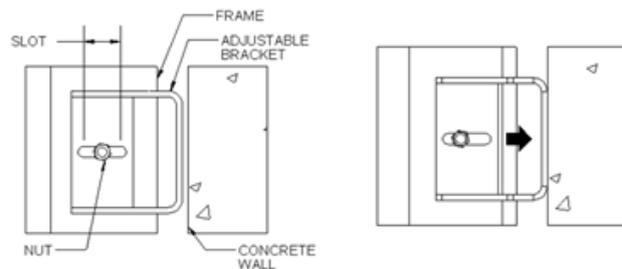

Figure 7
- brackets. For smaller sizes (typically under 1500mm/ 60”), the channel gate includes lateral flexible brackets (as seen in Figure 7) that require no field adjustment. For bigger sizes (typically above 1500mm/60”), the channel gate includes “Field Adjustment Brackets”. In order to adjust the bracket, the following steps shall be followed (see Figure 7):